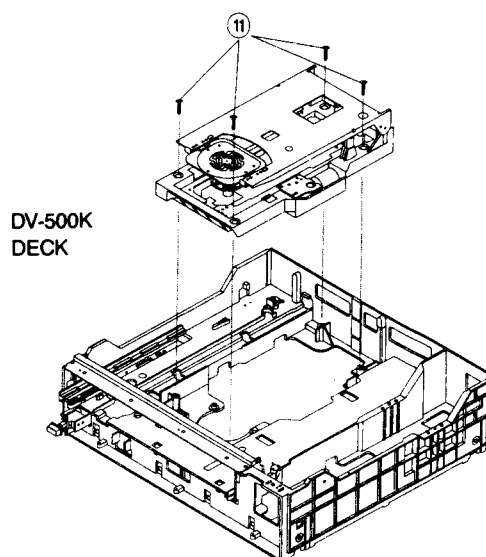

Figure 6.
- (1) Remove Chassis Top.
- (2) Remove Chassis Bottom.
- (3) Remove Chassis Rear.
- (4) Remove Tray.
- (5) Release 4 screws ⑪ from DECK. (Figure 6)
- (6) Disconnect 3 connecting wires from the DECK Assembly.